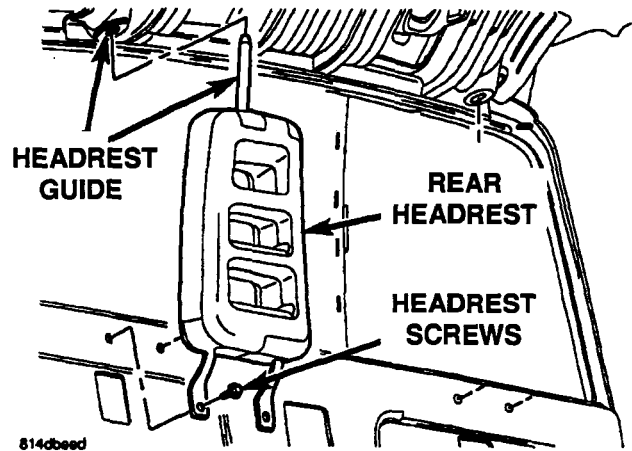

Figure 8
Remove the fasteners that secure the left lower headrest to the cab back (Figure 8).
Lower the left headrest to disengage the upper post from the grommet and then remove the headrest from the vehicle (Figure 8).
Remove the fasteners that secure the right lower headrest to the cab back (Figure 8).
37. **For CLUB Cab Vehicles Only:** Lower the right headrest to disengage the upper post from the grommet and then remove the headrest from the vehicle (Figure 8).
52. **For CLUB Cab Vehicles Only:** Insert the right headrest upper post into the headliner guide (Figure 8).
53. **For CLUB Cab Vehicles Only:** Install the fasteners that secure the right rear headrest to the cab back (Figure 8). Tighten the fasteners to 110 in-lbs (12 N·m).
54. **For CLUB Cab Vehicles Only:** Insert the left headrest upper post into the headliner guide (Figure 8).
55. **For CLUB Cab Vehicles Only:** Install the fasteners that secure the left rear headrest to the cab back (Figure 8). Tighten the fasteners to 110 in-lbs (12 N·m).